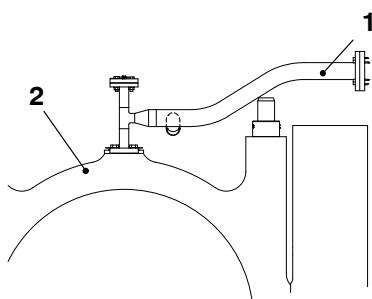

Fig. 1
- 1) Remove the oil pipe (1, Fig.1) from the main bearing cover (2).